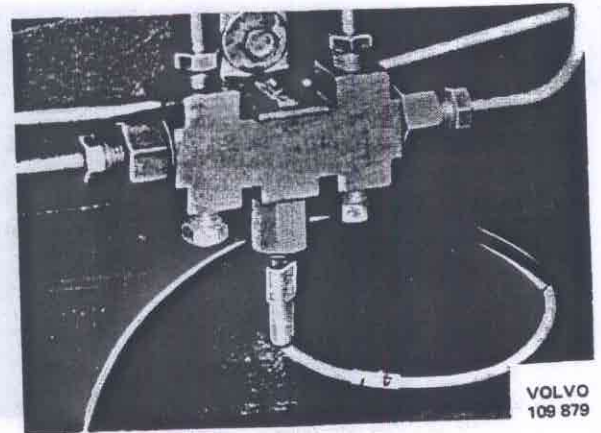

Fig. 52-34. Warning valve
Clean the outside of the valve. Remove the retaining bolts and the valve. Install the new valve. Fig. 52-34 shows the various connections. Bleed the brake system.
2. Clean round the cap on the brake reservoir and round the contact on the warning valve. Remove the contact, see Fig. 52-34. If necessary top up with brake fluid. Blow clean the cap venting hole.